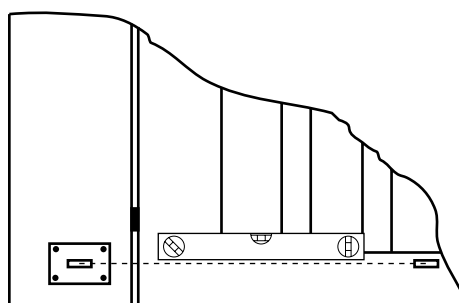

Fig. 6
- When the gate is completely closed, position the head bracket in proximity to the attachment of the piston. Check that head and tail brackets are perfectly level (see Fig. 6). Secure the head bracket to the gate.